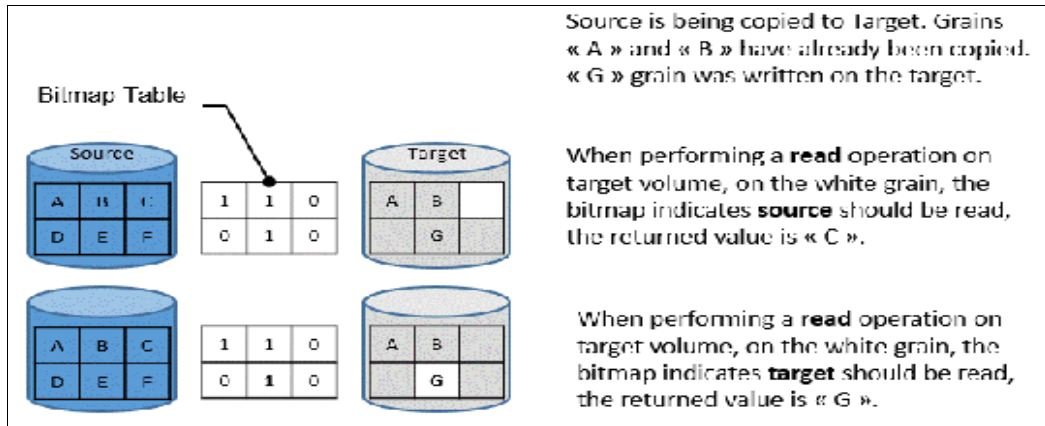

Figure 10-9 Reading a grain on a target
- ▶ If the bitmap indicates that the grain was copied from the source or that the grain was modified on the target, the grain on the target is read, as shown in Figure 10-9 on page 565.
- ▶ If the bitmap indicates that the grain was not yet copied from the source or was not modified on the target, the grain on the source is read, as shown in Figure 10-9 on page 565.